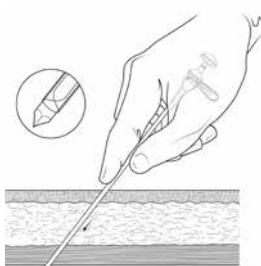

Figure 5
4. Insert Luke Guide Assembly at a 45° angle from horizontal, pointing towards the coccyx (Figure 5).